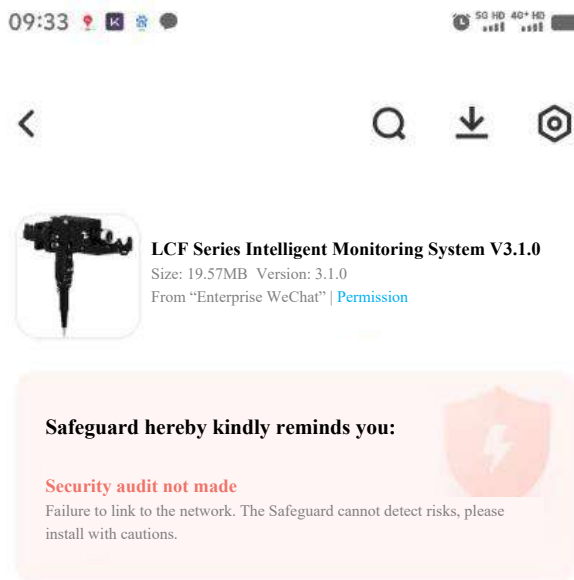
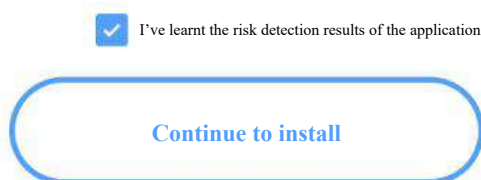

Figure 2.8
Figure 2.7
- ① After installation, the icon shown in Figure 2.7 will appear; continue by clicking "Install"; the icon shown in Figure 2.8 will appear after installation. This APP currently only supports installation on Android devices.